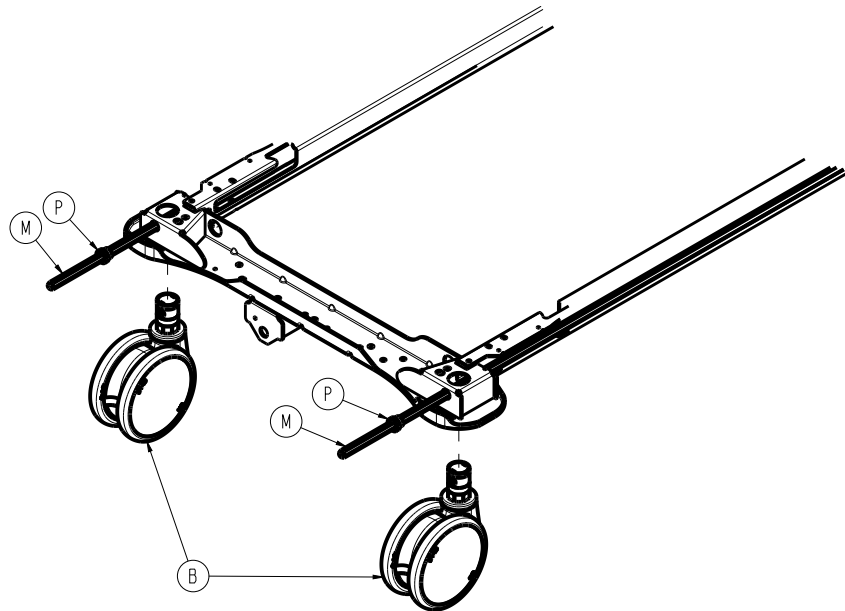

Figure 16 – Removing the caster
8. From the opposite end of the caster (B) (which must be replaced), move the brake shaft (M) toward that end until it is out of the caster (B) (which must be replaced) (Figure 16).
8. From the head end, move the brake shaft (M) toward the head until it is out of the caster (B) (Figure 16).